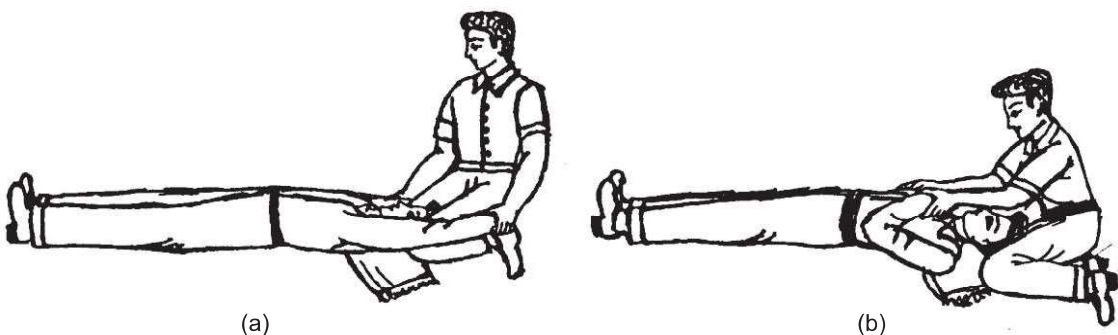

Fig. 17.2 Silvestre's method of artificial respiration (a) Lay the victim on the back (b) Kneeling near the victim's head
1. Lay the victim on his back, as shown in Figure 17.2(a).
6. Now kneel in the position near the head of the victim as shown in Figure 17.2(b).
9. Now bring the arms of the victim on each side of his chest (Fig. 17.2(b)), so as to compress his chest. Keep the victim's arms in same position also for 2 to 3 seconds.